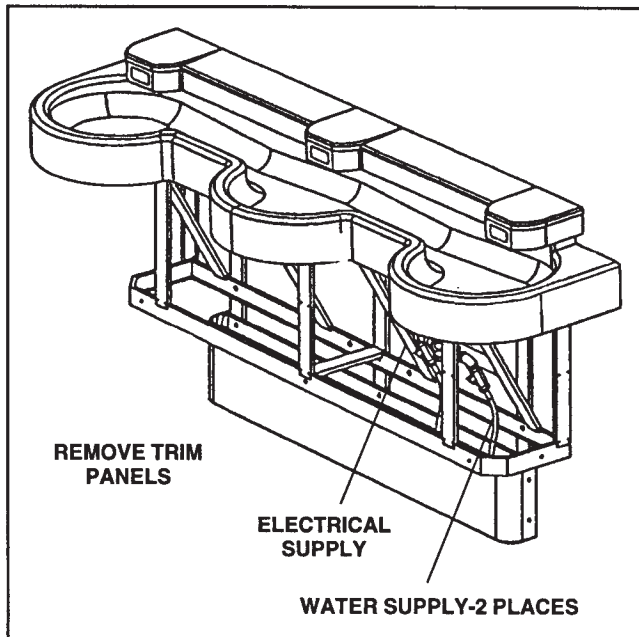

Figure 1
1. Remove the front trim panels, Figure 1.